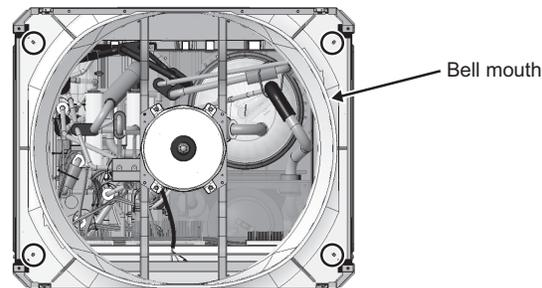

Fig. 8
(8) Remove the bell mouth. (Four screws: Fig. 8)